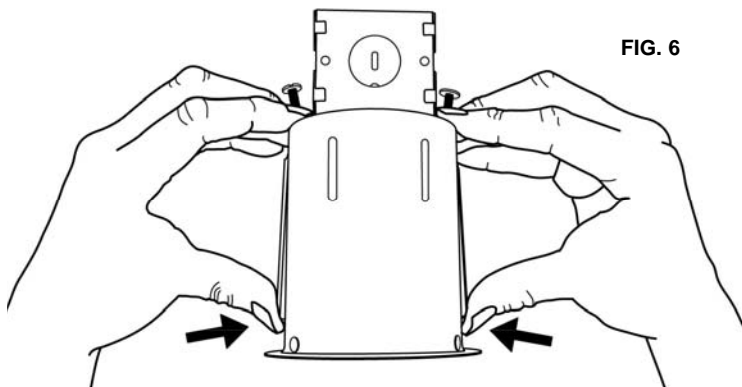

FIG. 6
2. Push the wing brackets inward, toward the housing until they are flat against the side of the housing, as shown below. (Fig. 6)